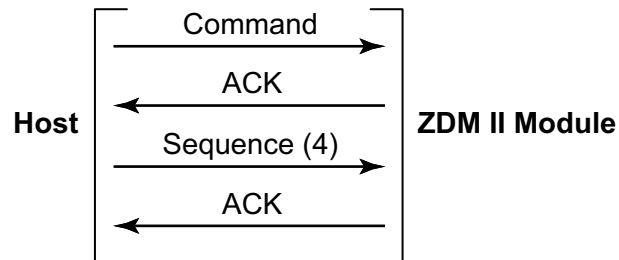

Figure 7. Confirmed Command Structure
- If the sequence is incorrect, or if there is an inactivity delay of more than 2.5 seconds between any characters of the sequence, the device immediately sends a NACK and does not execute the command. See the example in Figure 7.